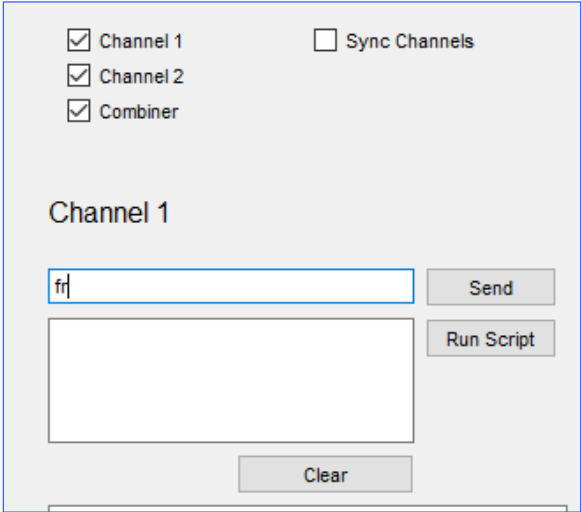

Figure 76: Terminal Screen, Text Command
1. Type the command for the appropriate channel using the single line text box beneath the channel title, as shown in Figure 76.